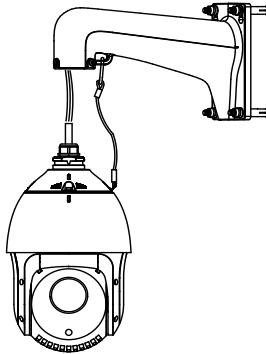

Figure 1-17 Mount the Dome
1. Hang the safety rope to the speed dome and then hook to the bracket as shown in Figure 1-17.